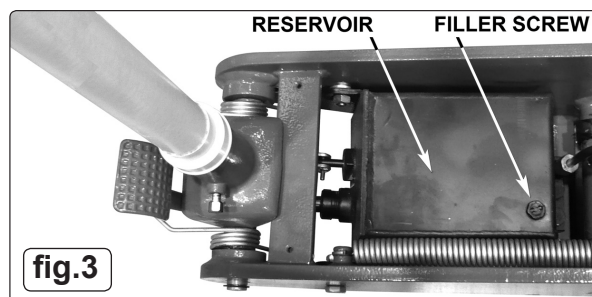

fig.3
- 3) The oil is topped up via the filler screw which is situated on top of the oil reservoir as shown in fig.3.